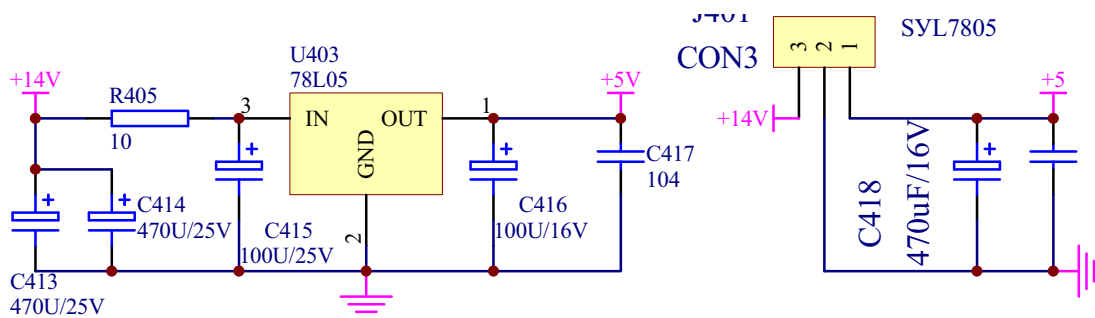

Fig.29B The Main Controlling Board Power Supply
(2) PRO85UM, PRO85UM/S Circuit (Fig.29B)